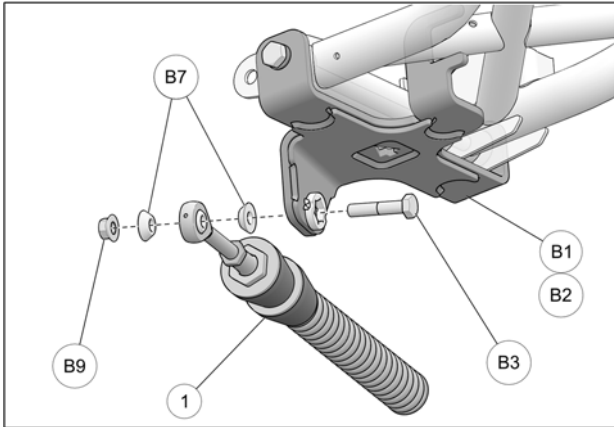

Fig. 10
10. Attach stabilizing rod (1) to anchor bracket (B1-B2), using bolt (B3), Taper spacer bushings (B7), and nut (B9) Torque to 70 N•m [52 lb•ft]. See Fig. 10